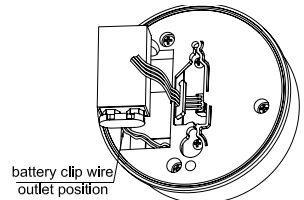

Fig. 2
2. Snap new battery into the connector clip, and slide it into the battery compartment top down so that the wires will not be pinched between the battery and the vault door. (Fig.2)